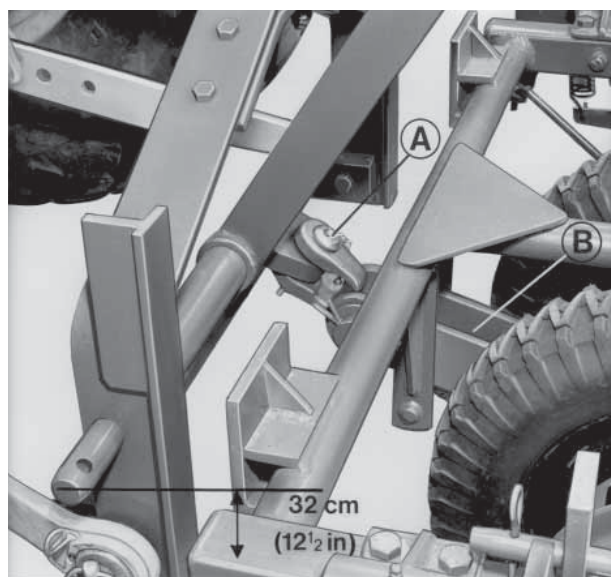

Fig 9
5. (Fig. 9). Reverse tractor to gang mower and hitch up the draught eye (A) inserting the pin from the top.
7. (Fig. 9). Set tractor drawbar using tractor hydraulics until centre of lifting spindle is 32 cm (12.5cm) from the ground, as illustrated. Move tractor forward a little to apply a load to the draught eye and check that the swivel arms (B) are midway in the guide plate, when the outfit is on level ground. The swivel arm must not foul the top or bottom of the guide plates as in work this will result in poor ground following and bending of components. Adjust length of the top link so that the lifting frame is vertical. Lock top link.